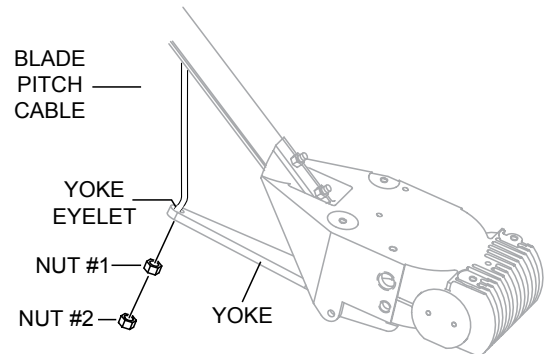

Figure 10. Pitch Cable Yoke Attachment
3. Insert the cable end through the yoke eyelet (Figure 10). Tighten conical nut #1 by hand to remove all the slack from the cable.